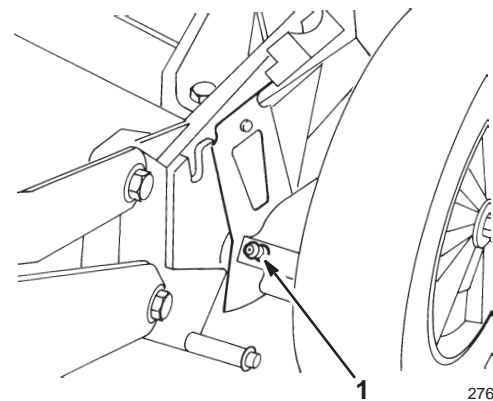

Figure 22
5. Install a grease gun onto each fitting and gently apply two or three pumps of #2 multi-purpose lithium base grease (Fig. 22).